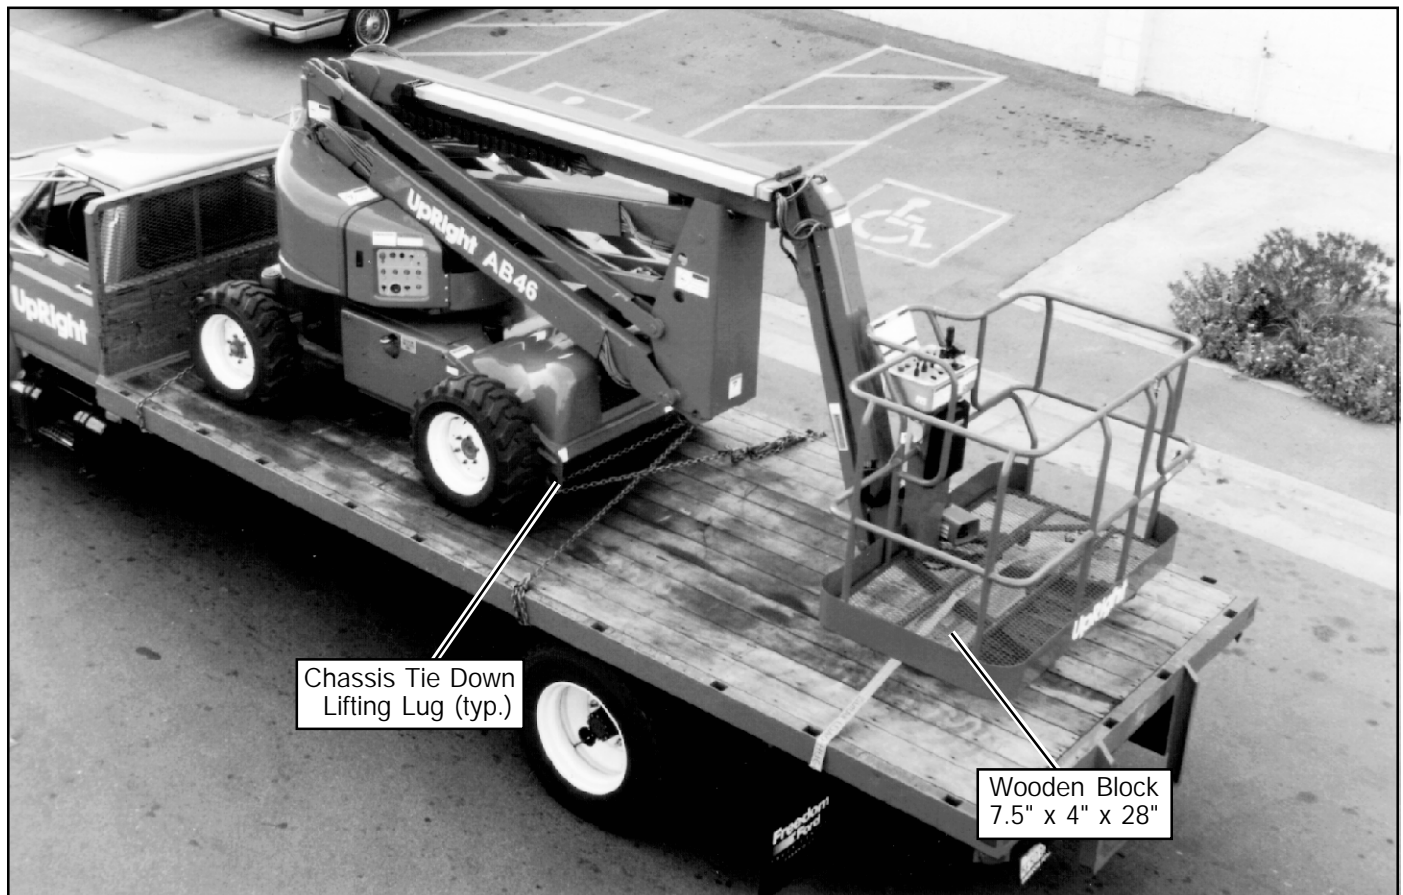

Figure 2-6: Securing the Machine for Transportation
5. Secure the machine to the transport vehicle using chains / straps of adequate load capacity (refer to specifications, back page) attached to chassis tie down lugs (see Figure 2-6).
6. Place a wooden block (7.5" x 4" x 28") under platform support braces as shown (see Figure 2-6).
7. Attach ratchet strap; under platform floor grating, over support braces (see Figure 2-6). Tighten securely, do not overtighten.